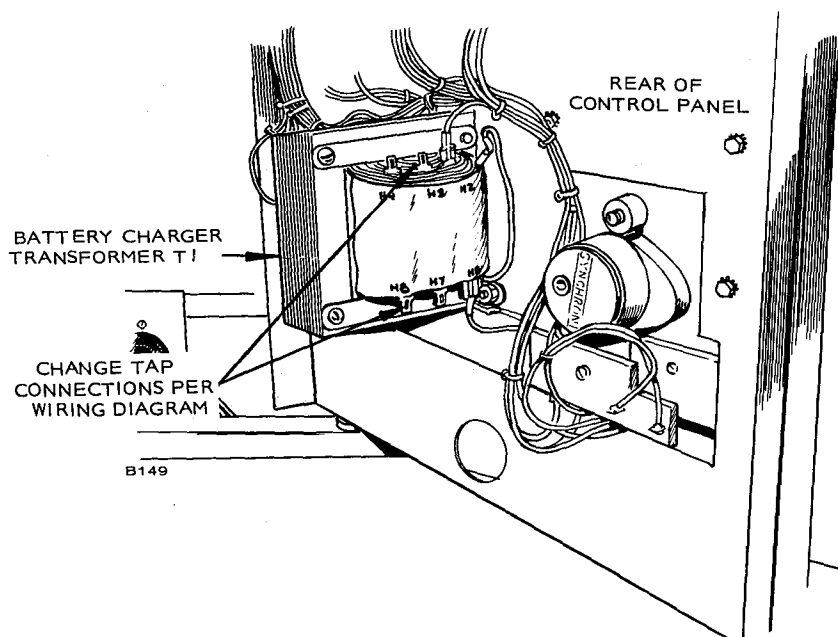

FIGURE 6. BATTERY CHARGER TRANSFORMER AC CONNECTIONS
6. Rewire battery charger transformer T1 so the wire from F1-2 and T1-H5 (COM) go to the appropriate connections on the transformer for the nominal AC voltage (Figure 6). See the wiring diagram for the correct connections.